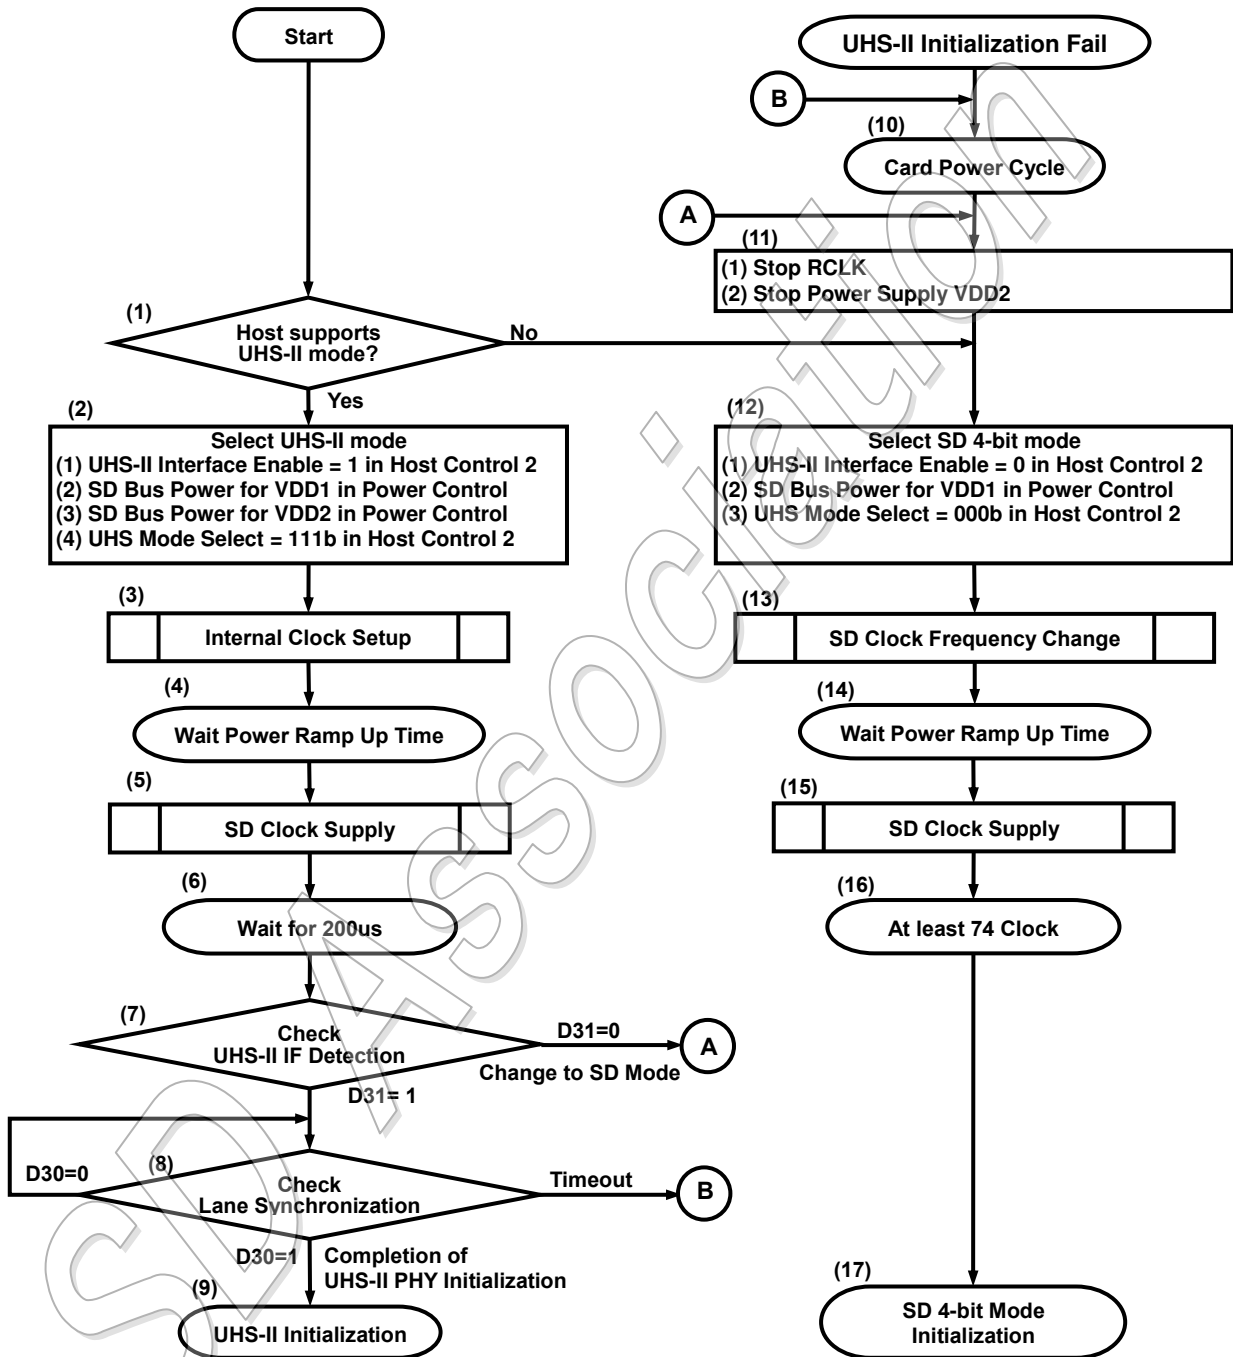
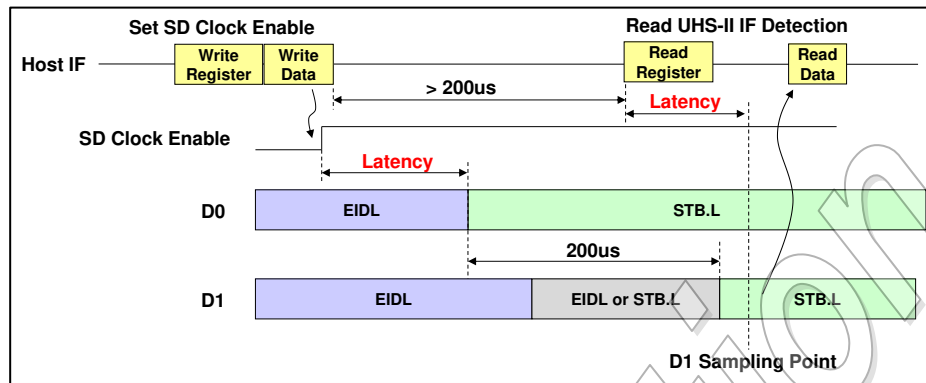

Figure 3-35 : Card Interface Detection Sequence
Figure 3-36 : Latency Compensation for Reading UHS-II IF Detection
Figure 3-36 shows timing of latency compensation. UHS-II initialization is started by setting **SD Clock Enable** and 200us later, Host Driver checks **UHS-II IF Detection**. There is latency from setting **SD Clock Enable** to Host Controller provides STB.L to D0 lane depends on implementation. Then when Host Controller receives read operation of **UHS-II IF Detection** bit in the *Present State* register (Step (8) of Figure 3-35), sampling timing of D1 lane shall be shifted during the register read operation to compensate the latency. To minimize the latency, Host Controller completes clock synchronization before **SD Clock Enable** is set.